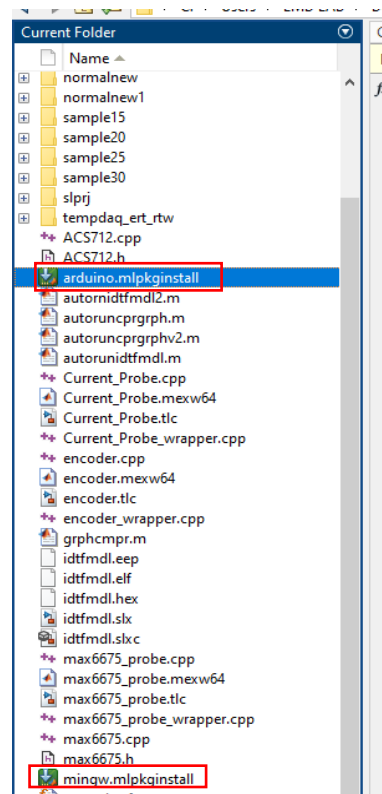

Figure 4.4: Location for support packages.
3. The library should be placed as Figure 4.4 in the same model folder. Then, double click the library to start installation. Bear in mind that this process should be done from inside MATLAB.